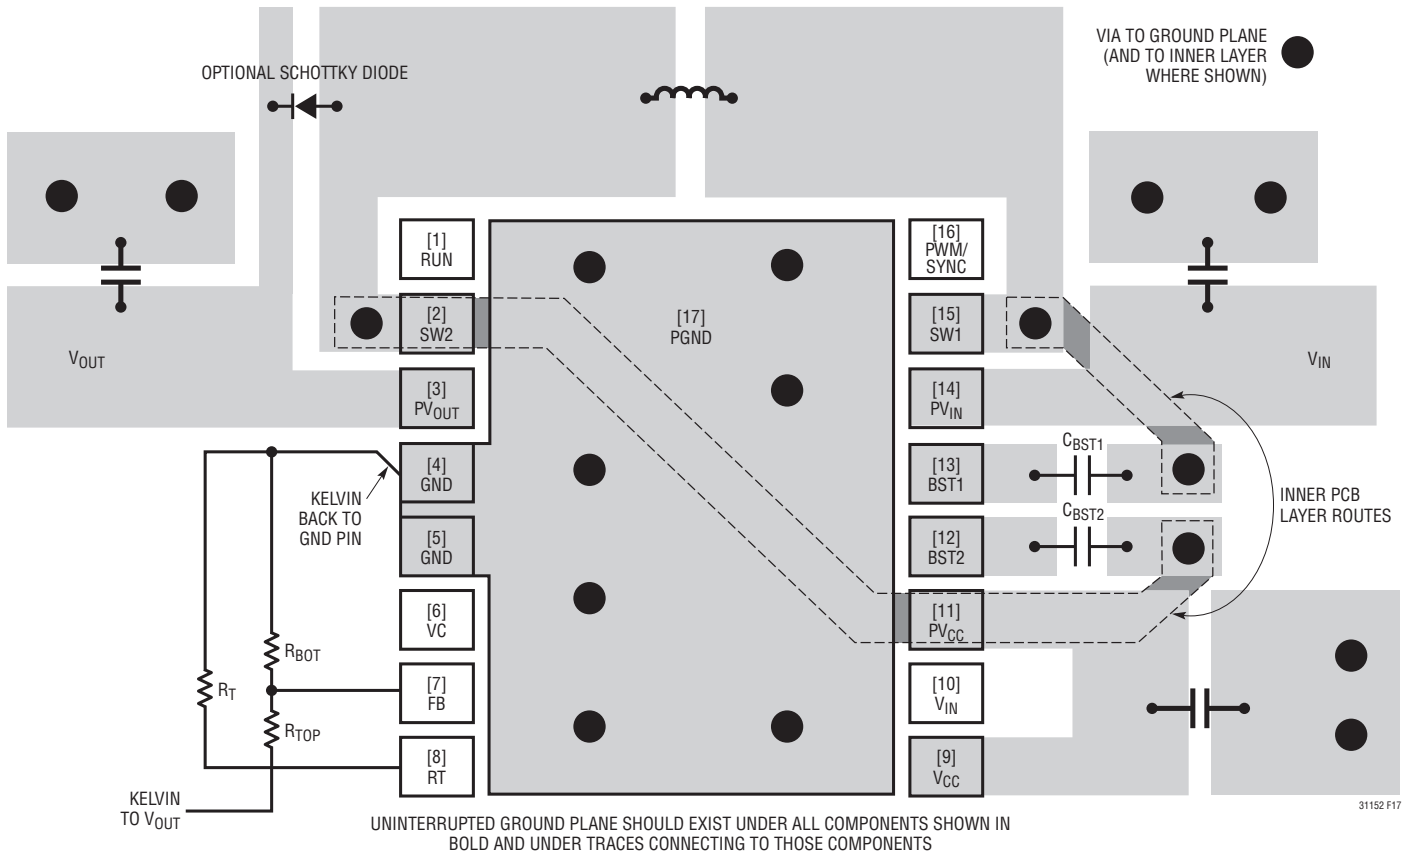

Figure 17. PCB Layout Recommended for the DHD Package
The LTC3115-2 buck-boost converter switches large currents at high frequencies. Special attention should be paid to the PC board layout to ensure a stable, noise-free and efficient application circuit. Figure 17 and Figure 18 show a representative PCB layout for each package option to outline some of the primary considerations. A few key guidelines are provided below:
1. The parasitic inductance and resistance of all circulating high current paths should be minimized. This can be accomplished by keeping the routes to all bold components in Figure 17 and Figure 18 as short and as wide as possible. Capacitor ground connections should via down to the ground plane by way of the shortest route possible. The bypass capacitors on  $PV_{IN}$ ,  $PV_{OUT}$  and  $PV_{CC}/V_{CC}$  should be placed as close to the IC as possible and should have the shortest possible paths to ground.
5. To prevent large circulating currents in the ground plane from disrupting operation of the LTC3115-2, all small-signal grounds should return directly to GND by way of a dedicated Kelvin route. This includes the ground connection for the RT pin resistor, and the ground connection for the feedback network as shown in Figure 17 and Figure 18.